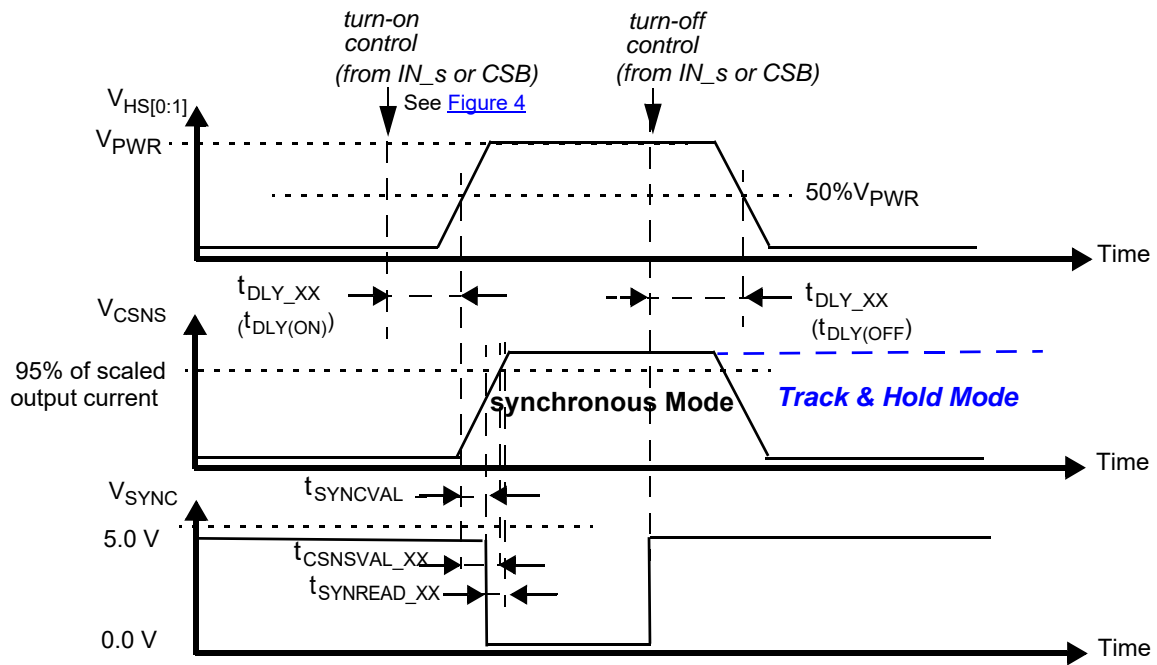

Figure 9. Synchronous and Track & Hold current sensing modes: associated delay and settling times
32. Time required to switch off the channel after detection of overtemperature (OT), overcurrent (OC), SC or UV error (time measured between start of the negative edge on the FSB pin and the falling edge on the output voltage until  $V(\text{HS}[0:1]) = 50\%$  of  $V_{PWR}$ ).
33. Settling time ( $= t_{CSNSVAL\_XX}$ ), SYNC output signal delay ( $= t_{SYNCVAL\_XX}$ ) and Read-out delay ( $= t_{SYNREAD\_XX}$ ) are defined for a stepped load current ( $100\text{ mA} < I(\text{LOAD}) < I(\text{OCLX A FOR CSNS\_RATIO\_S} = 1)$ , AND  $300\text{ mA} < I(\text{LOAD}) < I(\text{OCLX A}_0 \text{ FOR CSNS\_RATIO\_S} = 0)$ ). See Figure 9 and Output current monitoring \(CSNS\).
34. Settling time ( $= t_{\text{CSNSVAL\_XX}}$ ), SYNC output signal delay ( $= t_{\text{SYNVAL\_XX}}$ ) and Read-out delay ( $= t_{\text{SYNREAD\_XX}}$ ) are defined for a stepped load current ( $100\text{ mA} < I(\text{LOAD}) < I_{\text{OCLX A FOR CSNS\_RATIO\_S}} = 1$ , AND  $300\text{ mA} < I(\text{LOAD}) < I_{\text{OCLX A\_0 FOR CSNS\_RATIO\_S}} = 0$ ) See Figure 9 and Output current monitoring \(CSNS\).
The CS pin allows independent current monitoring of channel 0 or channel 1 up to the steady state overcurrent threshold. It can also be used to sense the device temperature. The different functions are selected by setting bits CSNS1\_en and CSNS0\_en to the appropriate value (Table 23). When the CSNS pin is sensed during switch-off in the (optional) track & hold mode (see Figure 9), it outputs the scaled value of the load current as it was just before turn-Off. When several devices share the same pull-down resistor, the CSNS pins of devices the current of which is not monitored must be tri-stated. This is accomplished by setting CSNS0\_en = 0 and CSNS1\_en = 0 in the GCR register (Table 10). Settling time ( $t_{CSNSVAL\_XX}$ ) is defined as the time between the instant at the middle of the output voltage's rising edge ( $HS[0:1] = 50\%$  of  $V_{PWR}$ ), and the instant at which the voltage on the CSNS-pin has settled to  $\pm 5.0\%$  of its final value. Anytime an overcurrent window is active, the CSNS pin is disabled (see Overcurrent detection on resistive and inductive loads). The current and temperature sensing functions are unavailable in Fail-safe mode and in Normal mode when operating without the  $V_{DD}$  supply voltage. In order to generate a voltage output, a pull-down resistor is required ( $R(CSNS)=1.0\text{ k}\Omega$  typ. and  $470 < R(CSNS) < 10\text{ k}$ ). When the current sense resistor connected to the CSNS pin is disconnected, the CSNS voltage is clamped to  $V_{CL(CSNS)}$ . The CSNS pin can source currents up to about 5.6 mA.
To synchronize current sensing with an external process, the SYNC signal can be connected to a digital input of an external MCU. SYNC is asserted logic low when the current sense signal is accurate and ready to be read. The current sense signal on the CSNS pin has the specified accuracy  $t_{SYNREAD\_XX}$  seconds after the falling edge on the SYNC pin (Figure 9) and remains valid until a rising edge is generated. The rising edge that is generated by the SYNC pin at the turn-OFF instant (internal or external) may also be used to implement synchronization with the external MCU. Parameter  $t_{SYNVAL\_XX}$  is defined as the time between the instant at the middle of the output-voltage rising edge ( $HS[0:1] = 50\%$  of  $V_{PWR}$ ), and the instant at which the voltage on the SYNC-pin drops below 0.4 V ( $V_{SOL}$ ). The SYNC pins of different devices can be connected together to save  $\mu$ -controller input channels. However, in this configuration, the CSNS function of only one device should be active at a time. Otherwise, the MCU does not determine the origin of the SYNC signal. The SYNC pin is open drain and requires an external pull-up resistor to VDD.